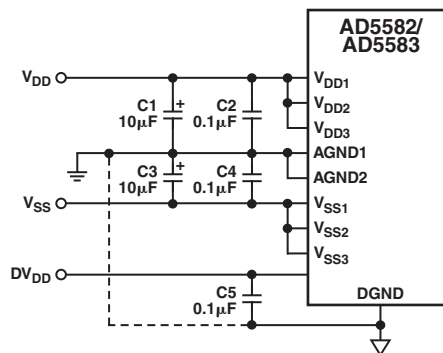

Figure 5. Power Supply Configurations
*AD5583 optimizes internal layout design to reduce die area so that all supply voltage pins are required to be connected externally. See Figure 5.
It is also essential to bypass the power supplies with quality capacitors for optimum stability. Supply leads to the device should be bypassed with 0.01 μ F to 0.1 μ F disc or chip ceramics capacitors. Low ESR 1 μ F to 10 μ F tantalum or electrolytic capacitors should also be applied at the supplies to minimize transient disturbance. The AD5582/AD5583 optimize internal layout design to reduce die area so that all analog supply pins are required to be connected externally. See Figure 5.